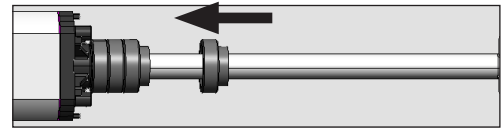

Fig. 14
14. If an opening mechanical stop on ground is not installed, spacers can be used (Fig. 1 Ref. 7). Remove the front articulated joint and insert on the rod the number of spacers required to reach the desired opening angle (Fig. 14).